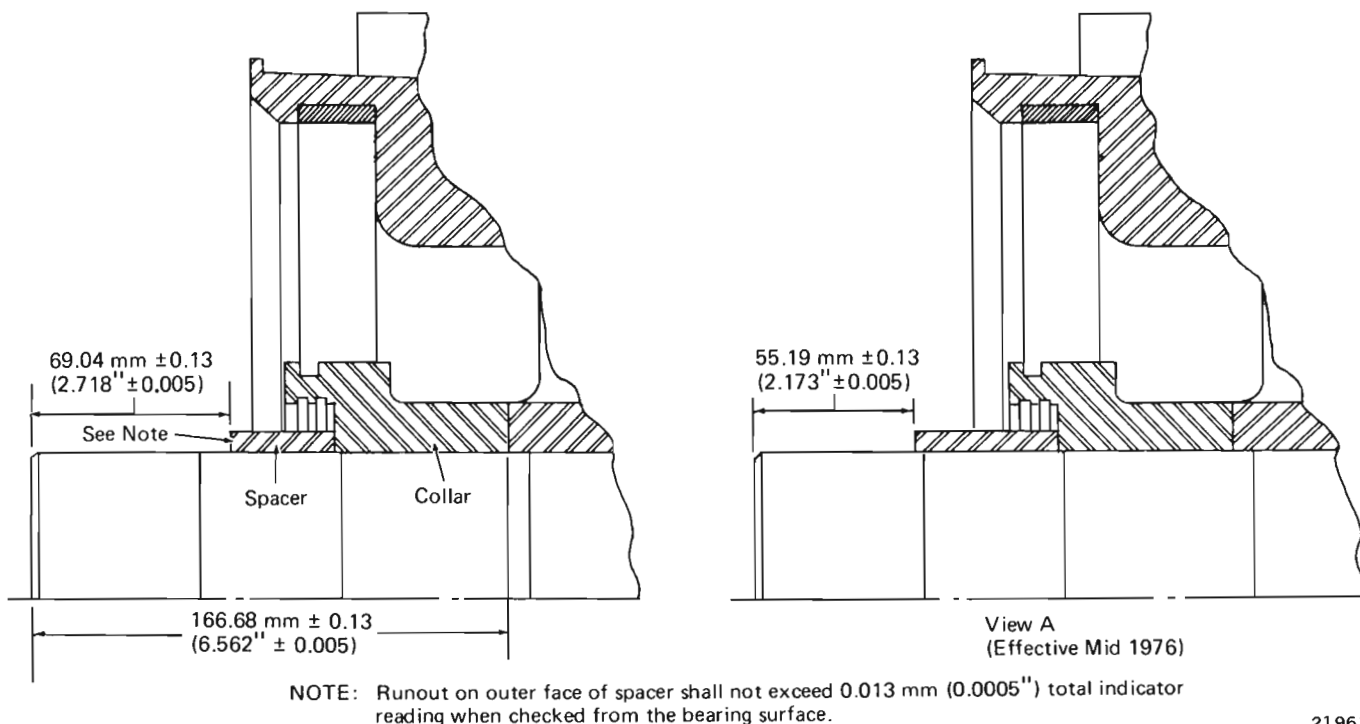

Fig. 13 - Commutator End Spacer And Collar Assembly
4. Check the commutator end dimension from the end of the shaft to the commutator spider, Fig. 13.
5. After heating, remove commutator end collar and spacer from oil bath. Remove oil from collar and spacer with clean, bound-edge cloths. Shrink collar and spacer to the shaft and allow to cool to room temperature, Fig. 13.
Check and machine the distance between the commutator end spacer and end of shaft as shown in Fig. 13. Use care not to cut into shaft as spacer is machined.